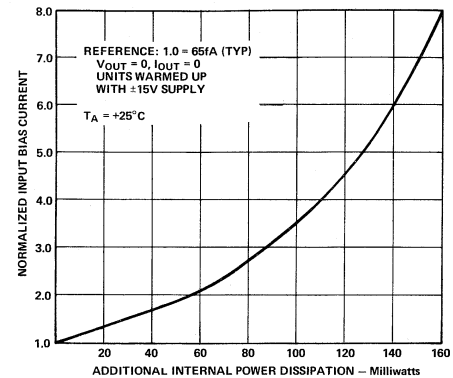

Figure 9. Input Bias Current Versus Additional Power Dissipation
3. Output loading effects, which are normally ignored, can cause a significant increase in chip temperature and therefore bias current. For example, a $2\text{k}\Omega$ load driven at 10 volts at the output will cause at least an additional 25 milliwatts dissipation in the output stage (and some in other stages) over the typical 24 milliwatts, thereby at least doubling the effects of self-heating. The results of this form of additional power dissipation are demonstrated in Figure 9, which shows normalized input bias current versus additional power dissipated. Therefore, although many DC performance parameters are specified driving a $2\text{k}\Omega$ load, to reduce this additional dissipation, we recommend restricting the load impedance to be at least $10\text{k}\Omega$.